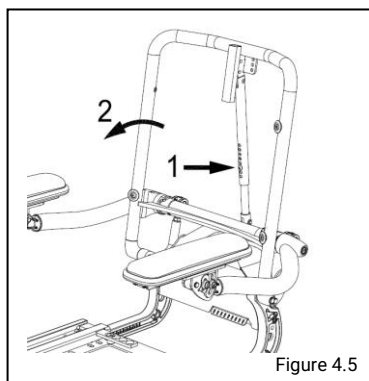

Figure 4.5
4.3 Rughoek instellen (fig 4.5)